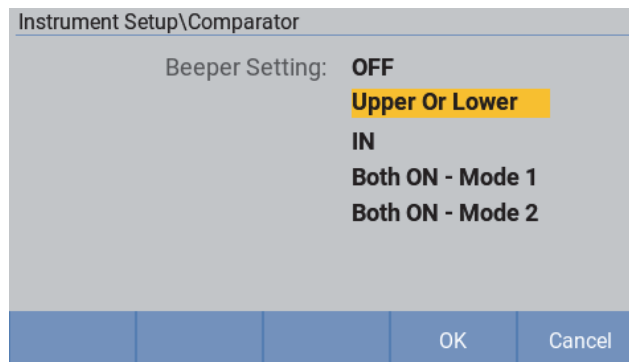

Figure 27. Beeper setting
13. The Beeper Setting screen is shown in Figure 27, And the meaning of each option is listed in Table 12.